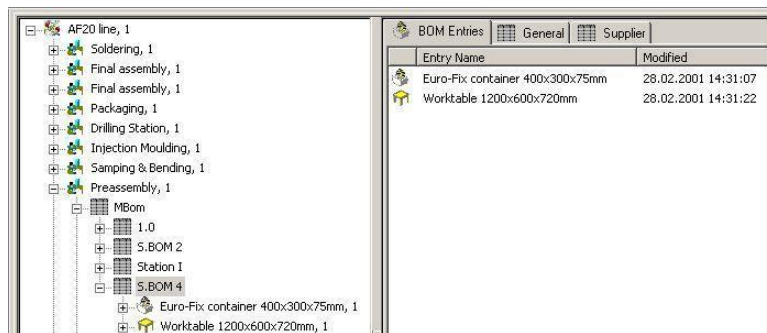

Figure 93: New Bill of Materials Structure
- 2) Click the "OK" button. The new bill of materials with the two selected objects will be displayed in the new structure. *Please refer to the Figure 93*.